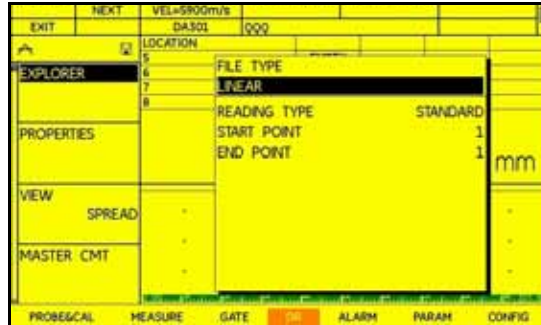

Figure 22: Data File Type Selection
2. The first selection is the *File Type* (Figure 22 below).